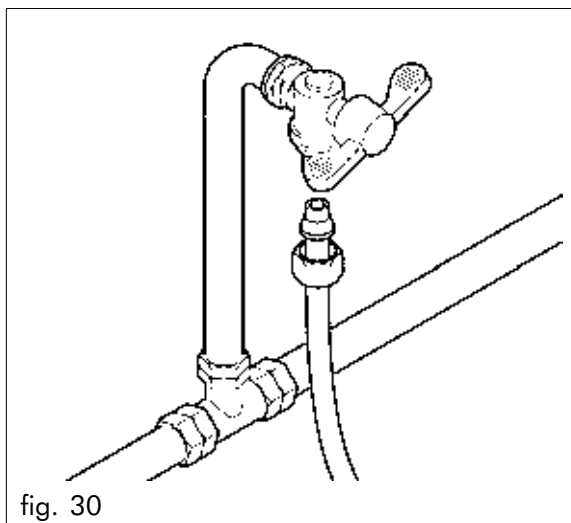

fig. 30
- connect the tap to the distributor, using for the purpose a rigid copper or nylon pipe, suitable for food and adequate to bear the water supply pressure. Should a flexible pipe be used, it is necessary to assemble internally the reinforcement bearing supplied with the machine (fig.30);